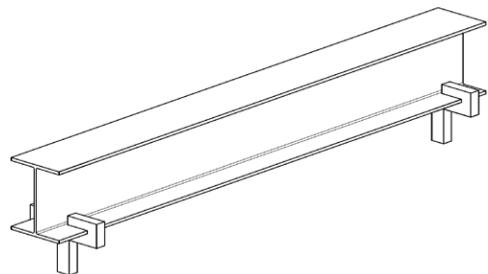
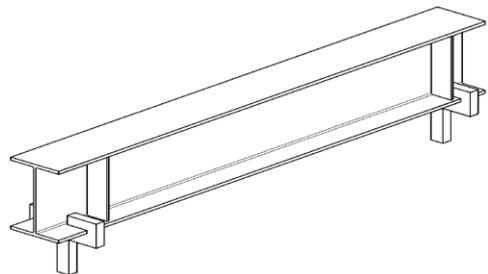

Figure 3b: Lateral and torsional restraint to one flange only
Figure 3c: Lateral and torsional restraint to one flange with web stiffeners
Some arrangement to “clamp” the one flange, as shown schematically in Figure 3b, is still not a torsional restraint, as the unattached flange is free to buckle. An arrangement with stiffeners to connect the flanges together, and a “clamped” flange, as shown schematically in Figure 3c is the only way to provide restraint to the “other” flange, but note the requirement for both stiffeners and a “clamped” flange.
- Introducing stiffeners on their own, even when aligned with a side rail, does not constitute a torsional restraint, as the connection to the side rail or purlin is in no way equivalent to the “clamp” shown in Figure 3c. Bolts in clearance holes in very thin material cannot be considered to provide a rigid joint.
Conceptually, this triangulated system is equivalent to the web stiffeners shown in Figure 3c and the secondary steelwork provides lateral restraint. The necessary torsional restraint, equivalent to the “clamping” described above, is delivered by the stiffness of the secondary members acting as “U-frames” as shown in Figure 5.